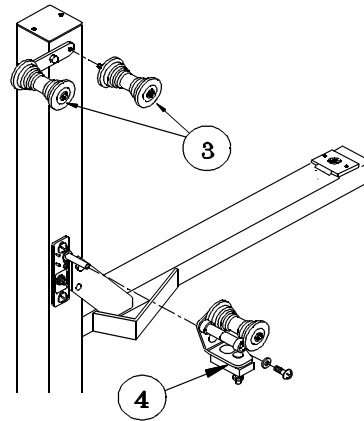

FIGURE 2
3. Replace the 35mm pulleys and bracket on the top of the control side of the column with a new Bracket (1168) and Column Shaft and Pulley Assemblies (1552) as shown in Fig. 2, page 2.
4. Remove the three 35mm Feed Castor Block & Pulley Assemblies from the column by removing the screw and flatwasher securing the block to the pivot shaft. Replace with three 70mm Feed Castor Block & Pulley Assemblies (4302). (See Fig. 2, page 2).